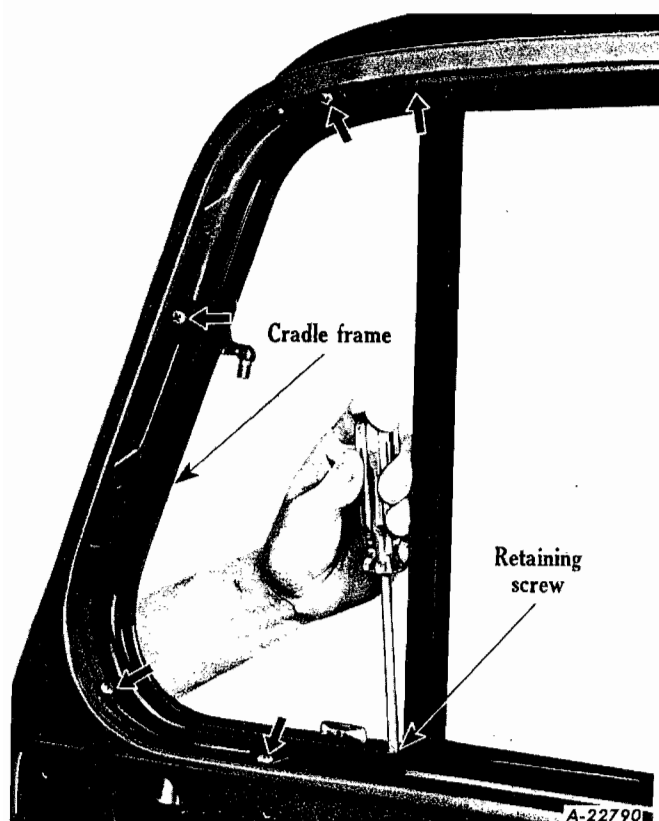

Fig. 33
9. Remove six door vent glass window cradle frame retaining screws (Fig. 33).